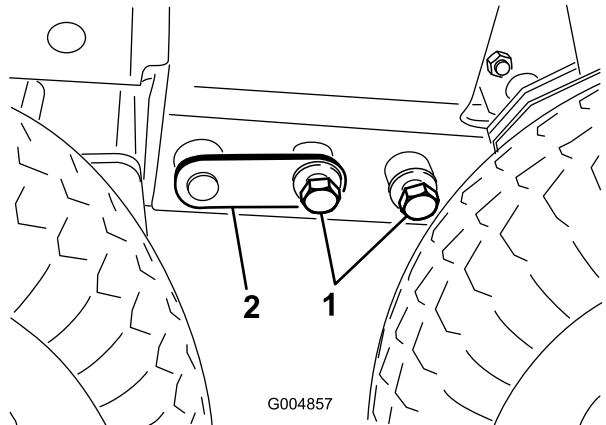

Figure 22
8. Adjust the floor jack or rock the cab with your hands as required to install the bolts (3/4 inch) on each side (Figure 22). Torque the bolts to 359 N·m (265 ft-lb).